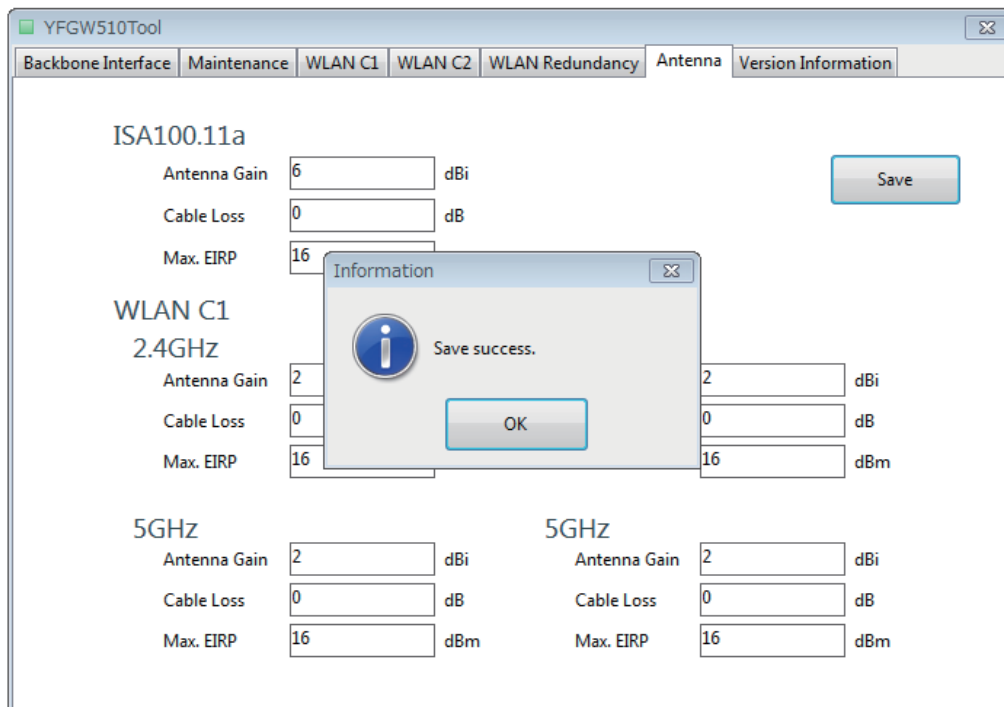

Figure 3-5 Success dialog
- After entering all items, click the [Save] button to save the settings in the YFGW510. The confirmation dialog box appears as shown in Figure 3-5.